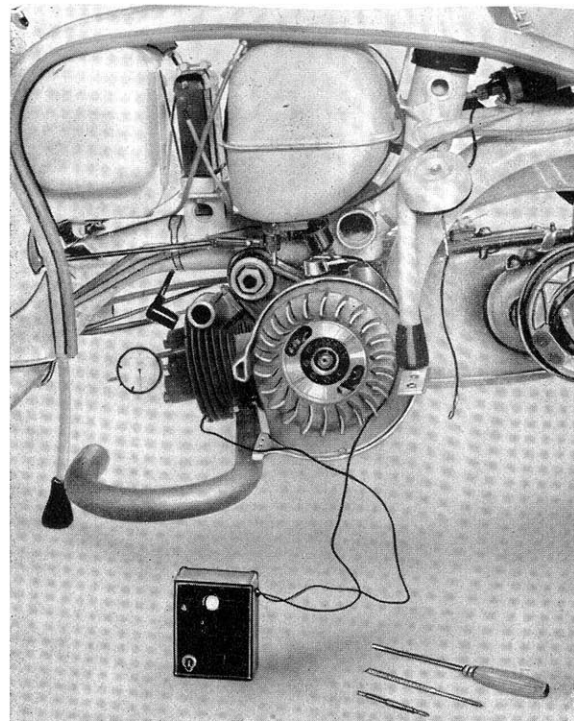

Fig. 41
- 66 Remove cylinder Head (Op. 1, 2, 3, 15, 19, 20, 21, 22, 23, 24 and 25) and fit Tool No. 57988 which can be locked into position by means of two of the four cylinder studs. To this Tool fit the dial gauge. See Fig. 41.
the opposite direction to that shown by the arrow marked on the flywheel). When the tester light goes out or the needle, according to the type of tester, moves, this indicates that the contact points have closed, take the dial reading. This should be between 2.5 and 3.0 mms. corresponding to an angle of rotation of the flywheel of $23^{\circ} \pm 1^{\circ}$ or to a measurement of 32 to 33 mms. measured on the perimeter of the flywheel. Should the points close before or after the above, remove flywheel (rotating part only), loosen the screws fixing stator plate, move the plate in a clockwise direction to retard or in anticlockwise direction to advance until the moment correct contact point opening is reached. See Fig. 41.